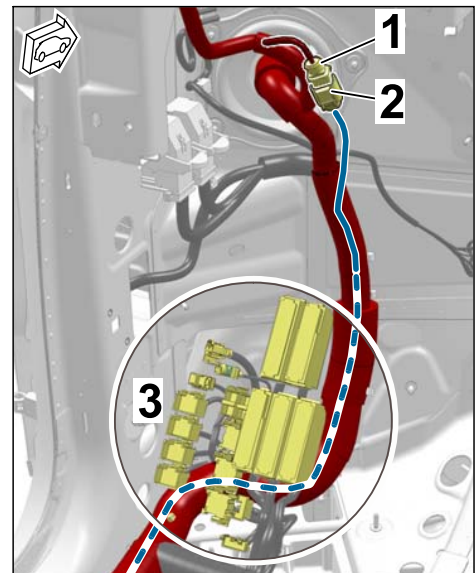

Figure 30
3.2.1 A-pillar area, left (⇒ *Figure 30*)